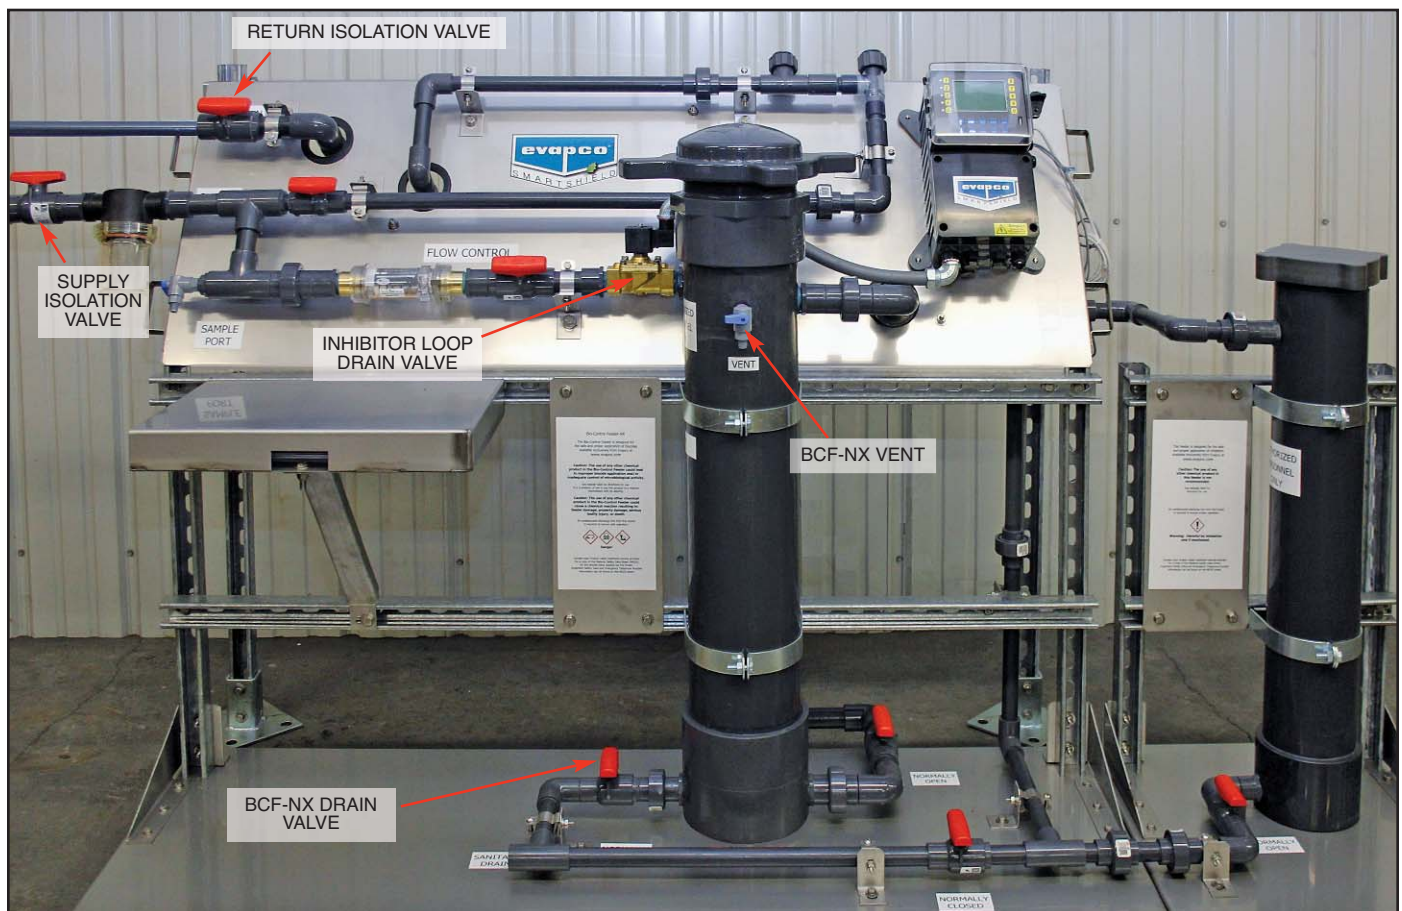

Figure 22 – Loading the **BCF-NX**
- 7.3.3 Close the Supply and Return Isolation Valves on the **CRF** system. See Figure 22.
- 7.3.4 Open the **BCF-NX** Drain Valve and then the Vent to drain the feeder to sanitary drain. Note that it may not be necessary to completely drain the feeder for reloading. See Figure 22.